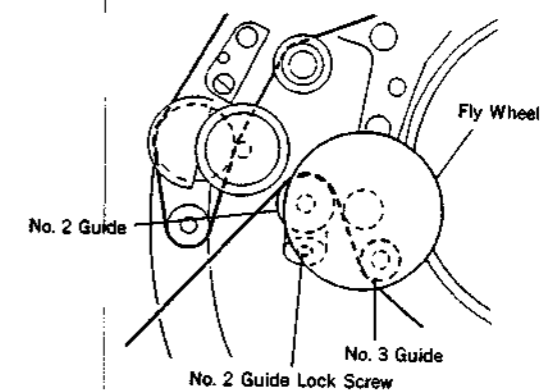

Fig. 1
- (1) Remove the Fly Wheel referring to Section 7-2-1.
- (2) Loosen the No. 2 Guide Lock Screw and turn the No. 2 and No. 3 Guides counterclockwise to free the tape path at the entrance side. (fig. 1 and 2)